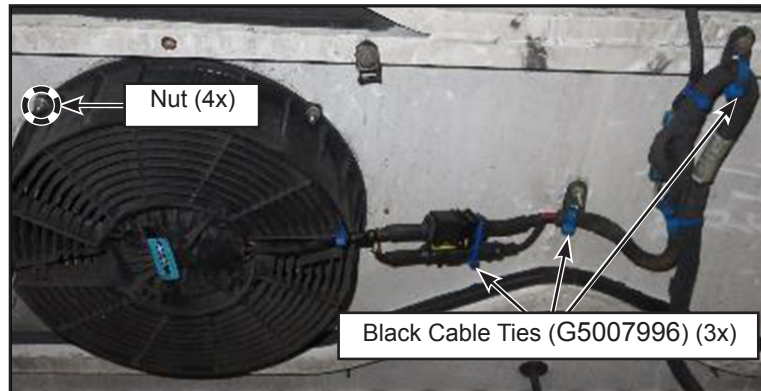

Figure 20 - Black Cable Ties Securing the Fan Wiring at Harness Side
- 1.36. Remove and retain the four nuts around the fan and rotate it counter clockwise (**for the fiber door configuration**) (see figure 20) to have the engine door fan routed horizontally wiring at the middle right and reinstall the four fan nuts.
- 1.37. Secure the wiring at the connectors and on the fiber door at harness side with **black** cable ties PN **G5007996** (3x) (see figure 20).